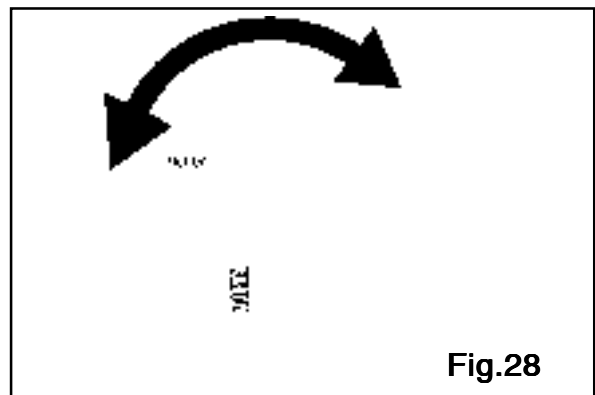

Fig.28
**REMEDY:** Slack the screw (Fig.28 Ref. 1/2).